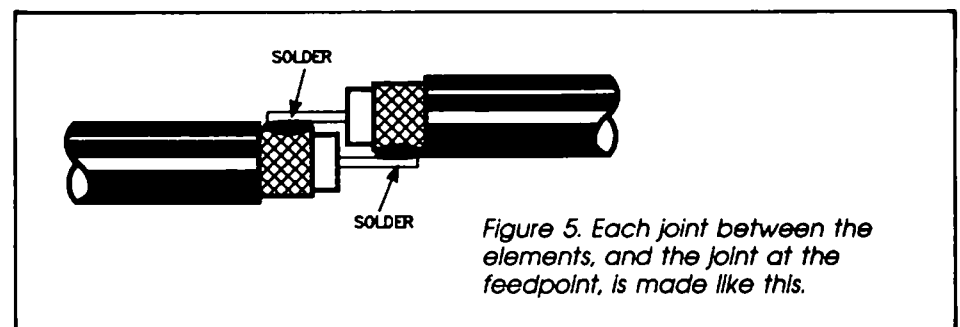

Figure 5. Each joint between the elements, and the joint at the feedpoint, is made like this.
7) Now to solder the elements together. First slip a 35-40mm length of 9.5mm or 12.7mm diameter heatshrink on each element. Solder the elements together, end to end, as shown in Figure 5. With each joint, after it has cooled, apply silicone sealant to the area of the joint to seal it, then, while the silicone is still plastic, slip the heatshrink tubing over the joint and apply a blast of hot air (hair dryers are great for this). But don't overdo the hot air, though, or you're likely to soften the outer sheath of the coax and possibly damage it.
12) Now attach the prepared cable to the feedpoint, making a joint as per Figure 5. Seal it and cover it with heatshrink. Put a tie either side of the